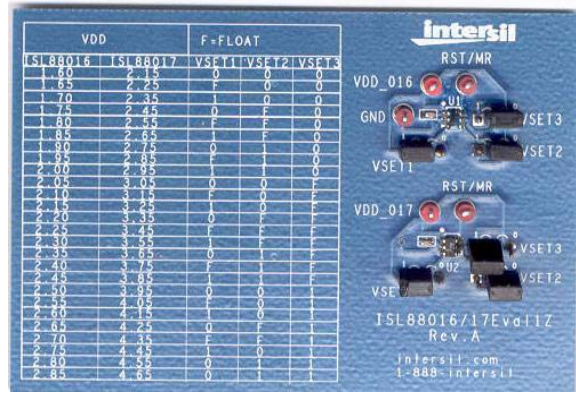

FIGURE 5. ISL88016/17EVAL1Z PHOTOGRAPH
The ISL88016/17EVAL1Z platform is provided with both an ISL88016 in the top and an ISL88017 in the bottom positions. Each IC is default programmed to VSET1, VSET2 and VSET3 = FLOAT but provided with jumpers to change the  $V_{th}$  level by individually connecting the three VSET pins to either  $V_{DD}$  (1) or GND (0). To the left of the circuits is a VSET programming table for easy reference. Provide adequate bias to  $V_{DD}$  to deassert RESET signal. See Figure 4 for the ISL88016/17EVAL1Z schematic and Figure 5 for its photograph.